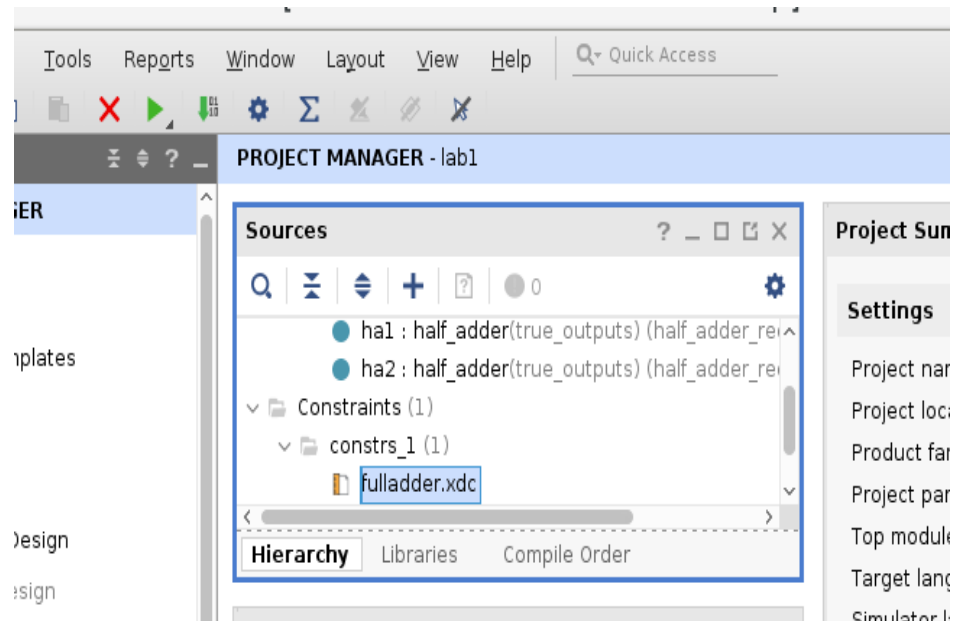

Figure 12: Selecting the constraint file.
7. In the Project Manager pane, select the Constraints tab to list the fulladder.xdc file, right click this file and select “Set as Target Constraints file”. Refer to Figure 12.